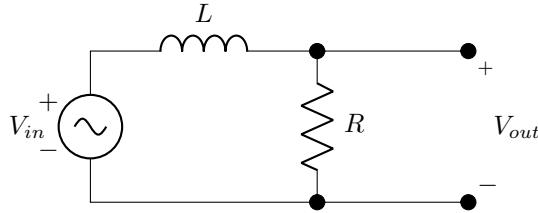

Figure 6.2: Lab # 6 Low Pass Filter
- B. For the circuit in Figure 6.2, derive the complex valued transfer function, V_{out}/V_{in} , in terms of R, L, and the angular frequency ω .